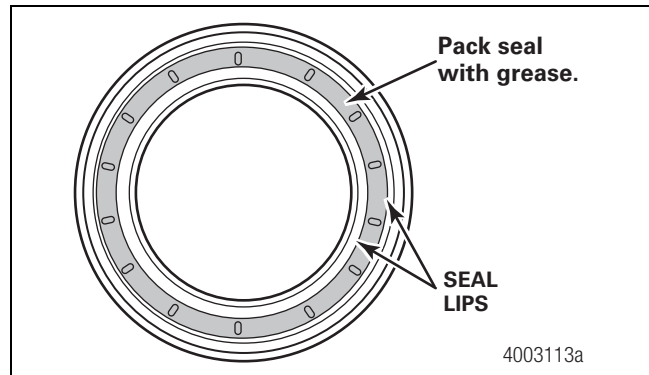

Figure 4.32
4. On a new pinion seal, pack the seal deflector, the space between the two seal lips, with Meritor specification O-616 grease. Figure 4.32.